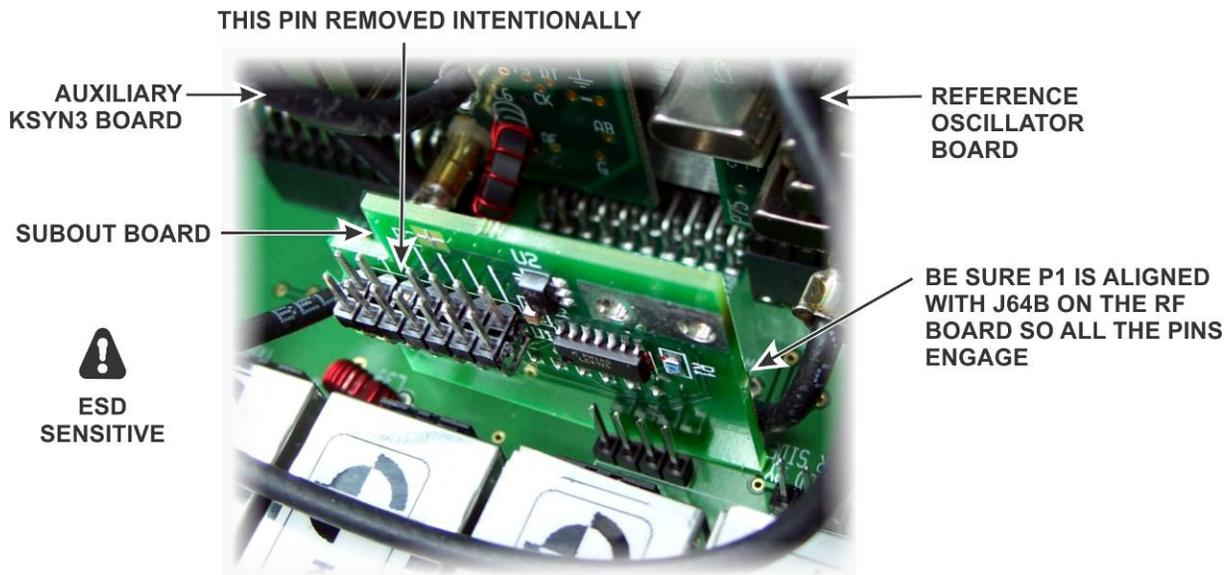

Figure 18. Replacing the SUBOUT Board.
□ Plug the SUBOUT interface board in J64B on the K3 RF board as shown in Figure 18. J64B is between the K3 crystal roofing filters and the front panel. **Be certain the SUBOUT board is aligned so all pins of P1 are engaged with J64B.**
□ Position the three TMP cables near the SUBOUT board as shown in Figure 18 so they will not interfere with installing sub receiver enclosure. Avoid kinking the cables.